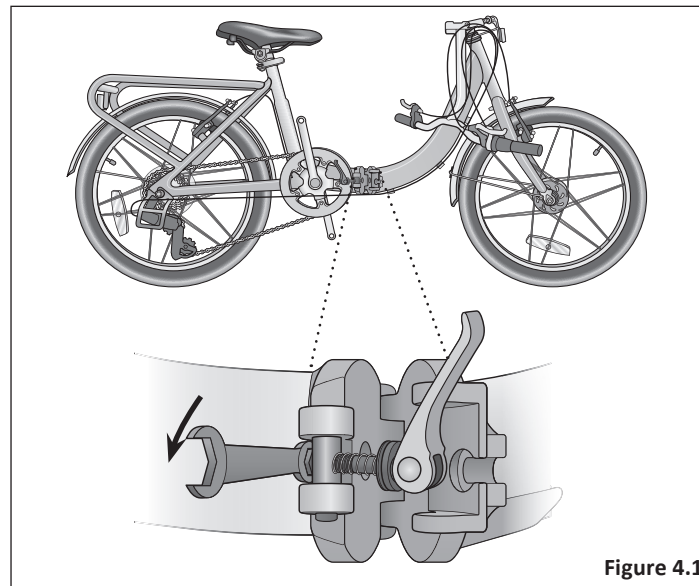

Figure 4.1
- 1 Using a 10 mm wrench turn the frame latch bolt clockwise to tighten the latch, counter-clockwise to loosen the latch. Adjust in 1/16" turn increments until the latch is properly adjusted. **Figure 4.1**